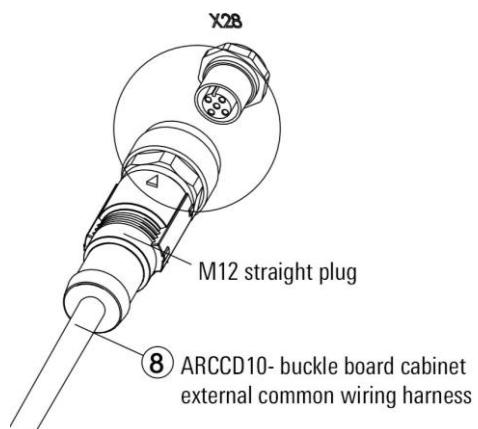

Figure 2-4 M12 interface location diagram
Step5. Connect one end of the ⑧ ARCCD10- buckle board cabinet external common wiring harness with an M12 straight plug to the X28 interface of the cabinet (refer to Figure 2-4), and the other end connected to ⑨ integrated spring terminal block.